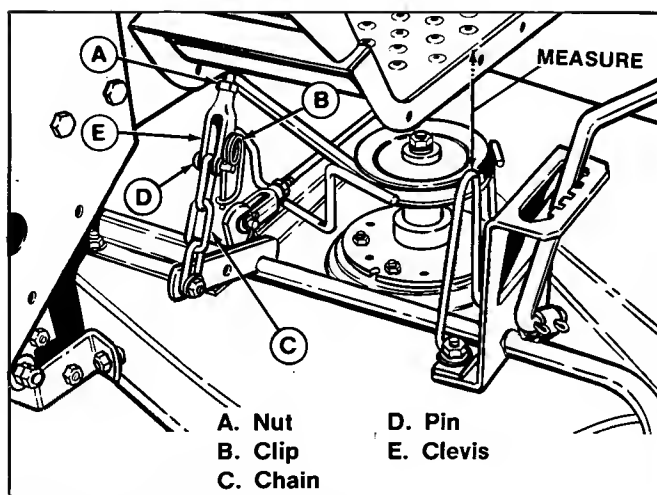

Figure 2. 36" Mower
2. Insert the lift rod (C) into lift arm (I). Thread the nut (D) and clevis (E) onto the rod.
3. Connect the clevis (E, figure 2) to lift chain (C) using pin (D) and clip (B). (36" mower shown.)